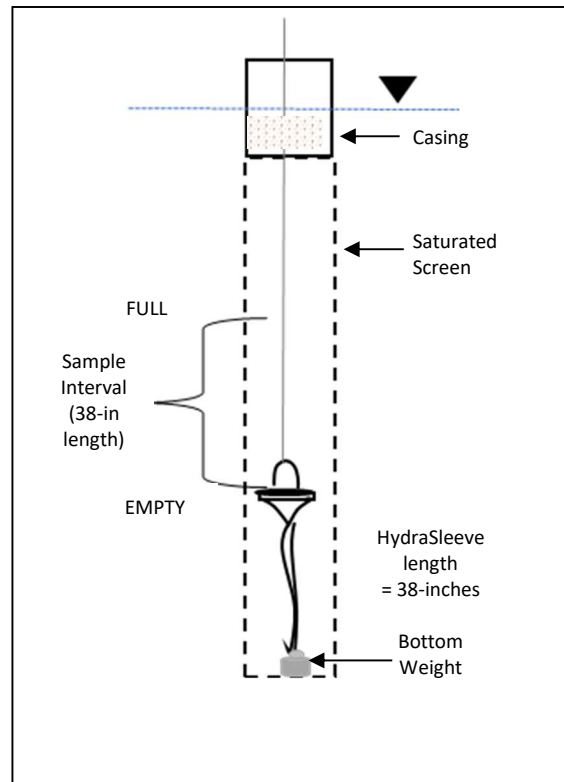

Figure 2. Correct placement of HydraSleeve
**Example 1 (Fig 2):** 2" ID SCH 40 PVC well, 50' total depth, **10' screen** at the bottom of the well, with water level above the screen (the entire screen contains water). Sampling will be done using,
**Correct Placement (Fig 2)**